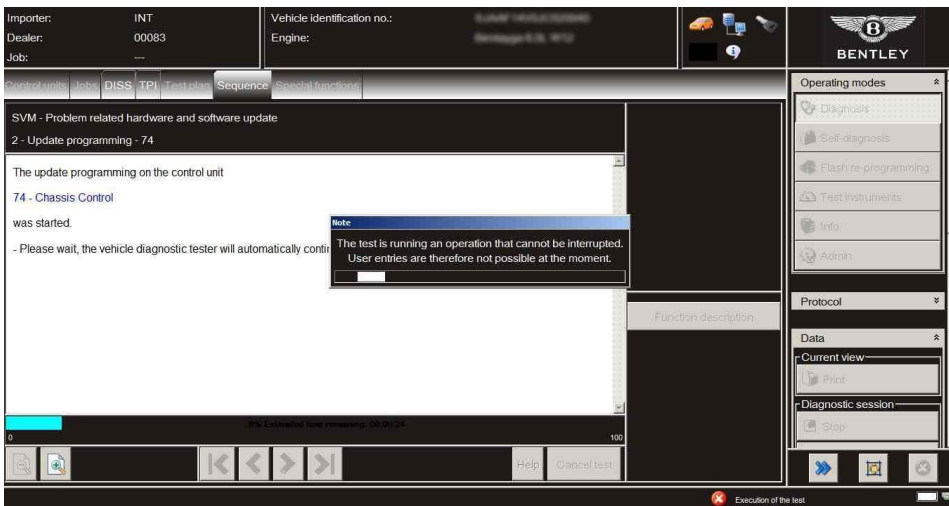

Figure 5
7) The software programming will then be performed (Figure 5), software updates may also be performed on addresses D4 and D5, please follow any further on screen instructions.